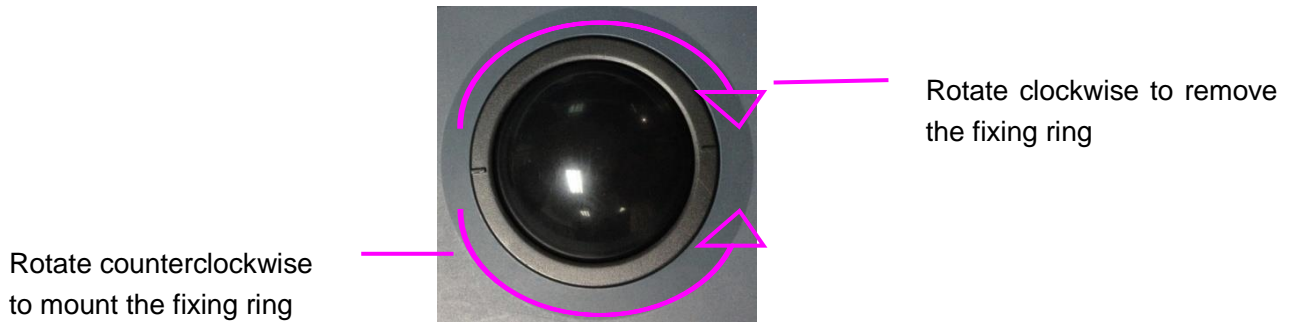

Figure 13-1 Assembling and Disassembling Trackball
2. Remove the trackball as shown in *Figure 13-1*.